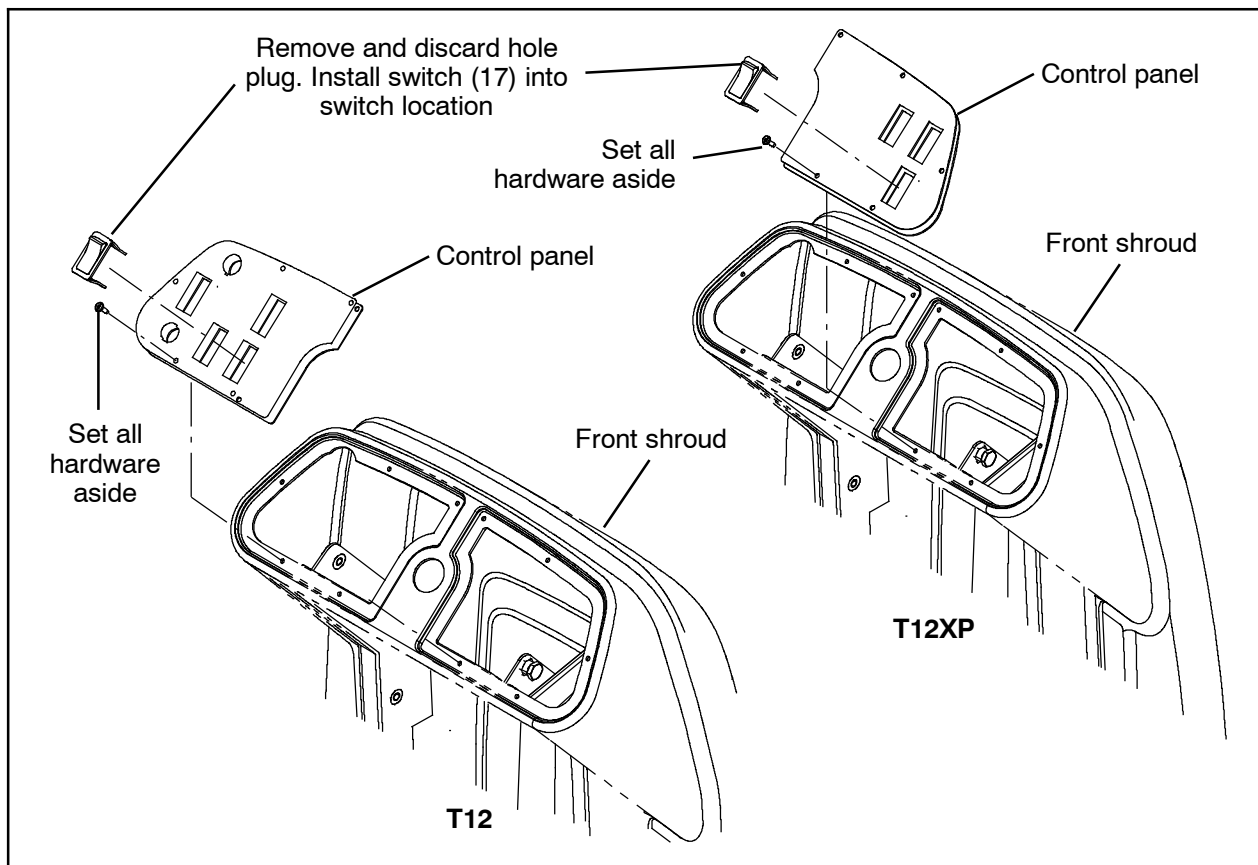

FIG. 15
- Remove the hardware holding the control panel to the front shroud and set the hardware aside. (Fig. 15)
- Carefully pull the control panel from the front shroud. Take care to not break any wire connections when pulling the panel from the shroud. (Fig. 15)
- Remove the hole plug from the control panel and discard the plug. (Fig. 15)
- Insert the switch (17) into the control panel. (Fig. 15)
- Reinstall the control panel onto the front shroud. (Fig. 15)